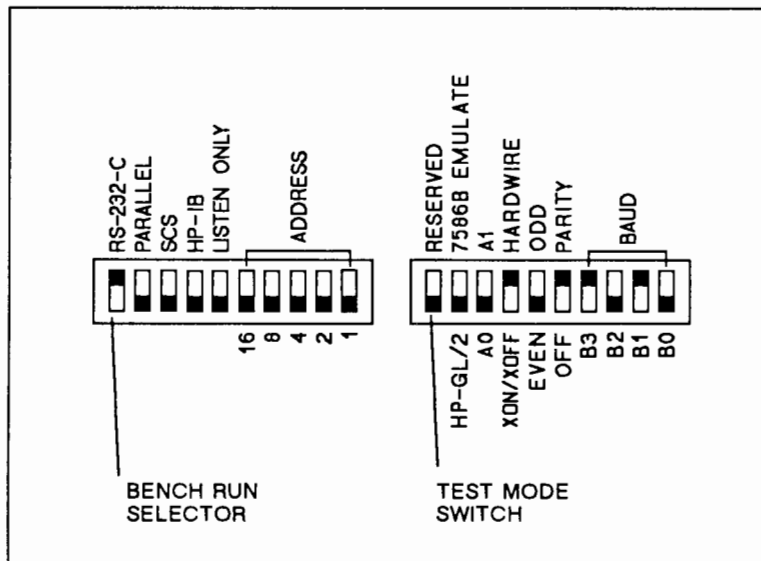

Figure 5-9. VRC Panel Switches
- a. Turn the plotter OFF (O).
- c. Set the Test Mode and Bench-Run Switches ON (I). See Figure 5-9.
- d. Turn the plotter ON (I).
- e. The test will begin and continue until the plotter is turned OFF (O).